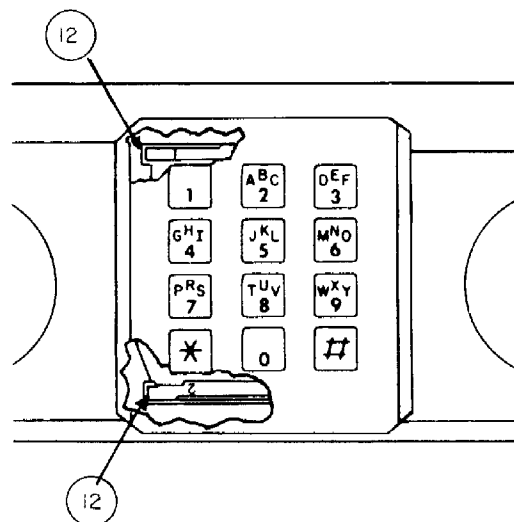
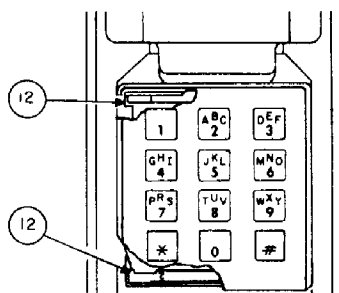

Figure 10. Type 182A Telephone Installation of the Old-Style TCU.
Figure 11. Type 192A Telephone Installation of the Old-Style TCU.
4.09 To install the old-style TCU (item 9), proceed as follows:
- (b) Install the two mounting bars (item 12) as shown in Figure 10 (for the Type 182A telephone) or Figure 11 (for the Type 192A telephone). Note that the mounting bars have raised numbers on them. These bars are to be inserted so that the "1" indicating the top side of the bar is positioned at the top of the TCU, and that the "2" indicating the bottom side of the bar is positioned at the bottom of the TCU. The numbers should be visible when the adapter plate (item 11 of Figure 4) is removed.